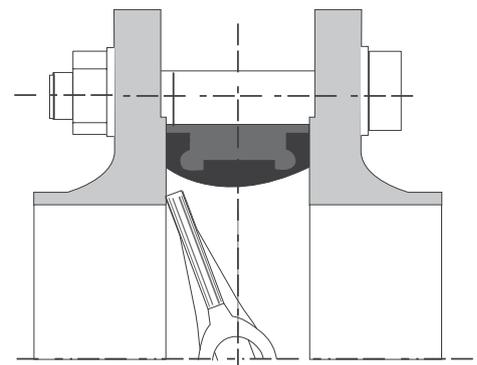

Figure 3: Incorrect installation
- Locking of the butterfly disc (see chapter 10.1, figure 3).